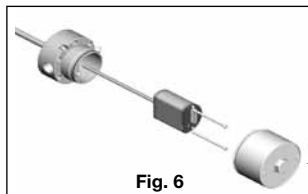

Fig. 6
- Step 4: Carefully slide electronics module/waveguide assembly out of the pressure housing. Avoid bending the waveguide assembly. (Fig. 6)